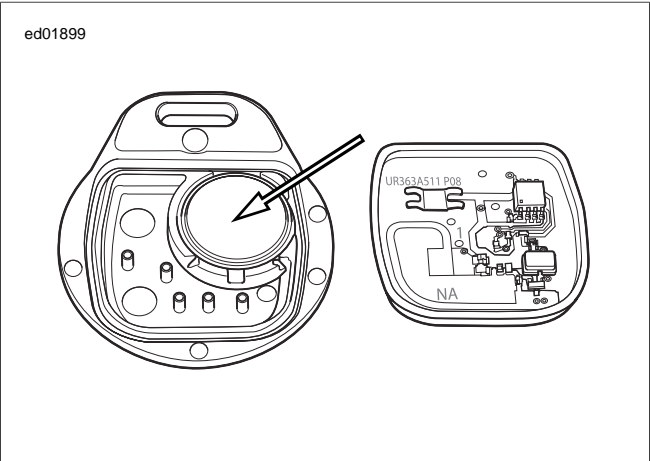

Figure 5-20. Key Fob Battery: TSSM
- See Figure 5-20. Verify that antenna is in OE location and that seat has not been replaced with a metal base seat.